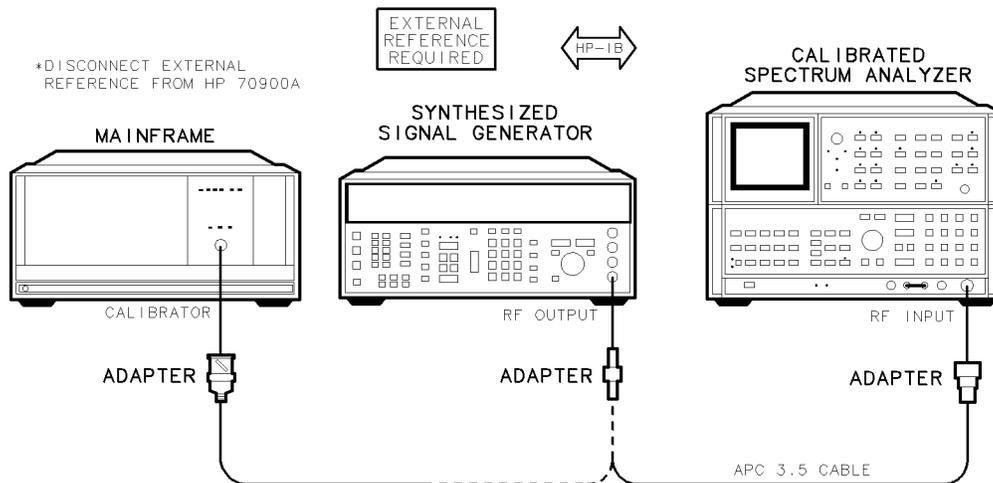

Figure 7-8. Reference Oscillator Accuracy Test Setup
1. Connect the HP 8663A synthesized signal generator’s RF OUTPUT to the HP 8566A spectrum analyzer’s RF INPUT using the adapter, as shown in Figure 7-8. Don’t connect the DUT to the external frequency reference.
3. After measuring and adjusting for this frequency error, connect the DUT to the spectrum analyzer's RF INPUT using the adapters, as shown in Figure 7-8. The spectrum analyzer then measures the frequency of the 300 MHz calibrator.